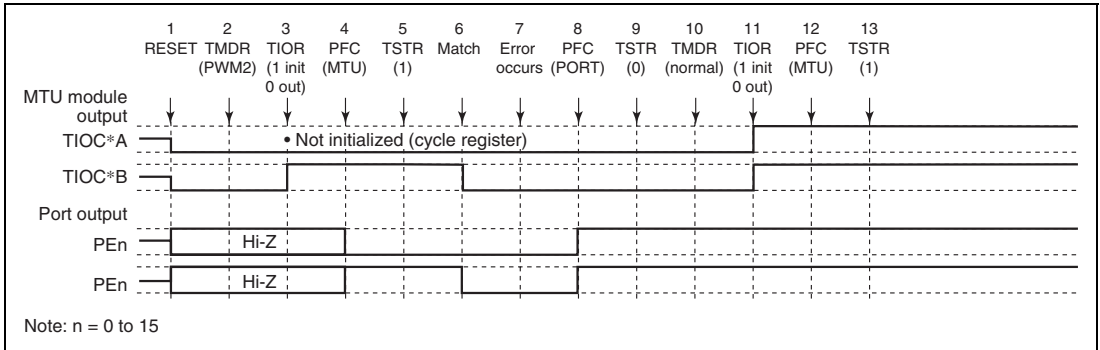

Figure 8.96 Error Occurrence in PWM Mode 2, Recovery in Normal Mode
(13) Operation when Error Occurs during PWM Mode 2 Operation, and Operation is Restarted in Normal Mode: Figure 8.96 shows an explanatory diagram of the case where an error occurs in PWM mode 2 and operation is restarted in normal mode after re-setting.
1 to 9 are the same as in figure 8.96.